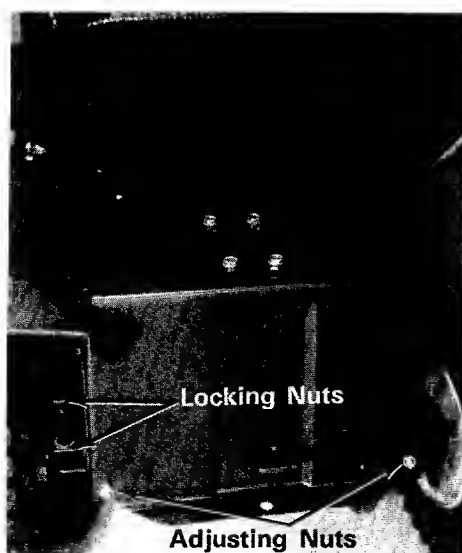

Figure 15.
1. To tighten the chain, loosen the two locking nuts on each side of the rear axle. (See figure 15.)